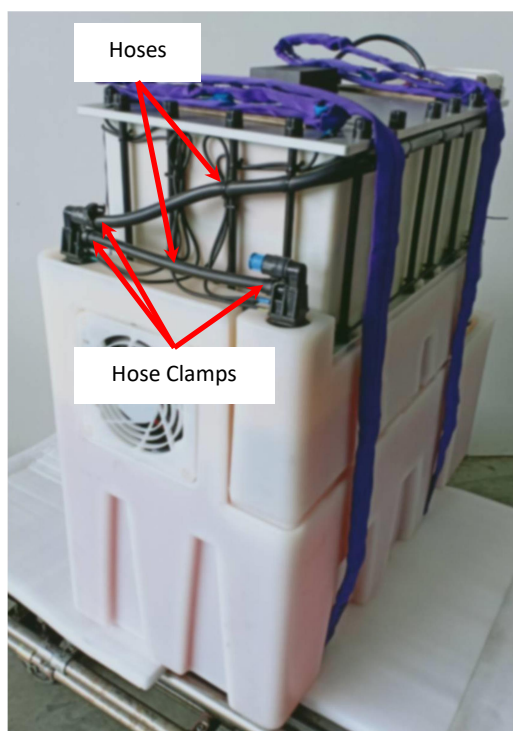

Figure 23: Hoses and hose clamps on the ZBM2
- Step 2** Check all hoses (see Figure 23) are securely fitted with hose clamps and have not disconnected or kinked during transport.